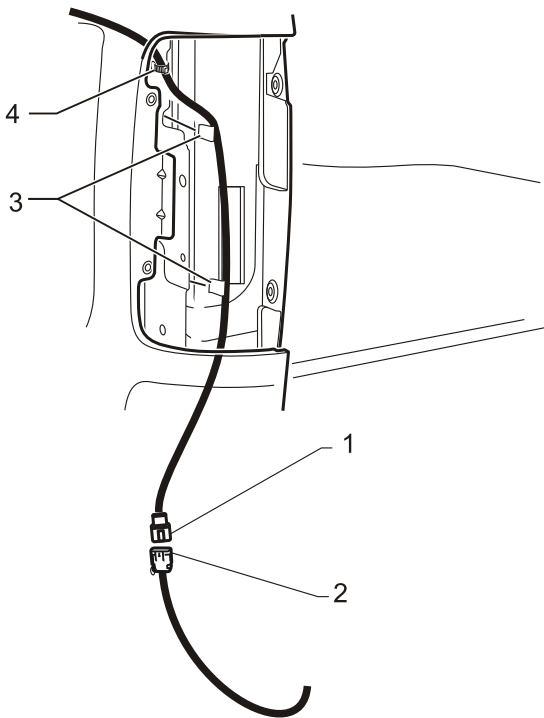

Figure 28
47. From under the vehicle connect the canopy power harness (2) to the canopy interior lamp harness (1) and cable tie as required.
48. Clip the cable tie (4) on the interior lamp harness into the hole in the sheet metal and slide the harness retaining clips (3) onto the edge of the sheet metal.
49. Cable tie the interior lamp harness to the vehicle rear tail lamp harness. Refer to figure 28.